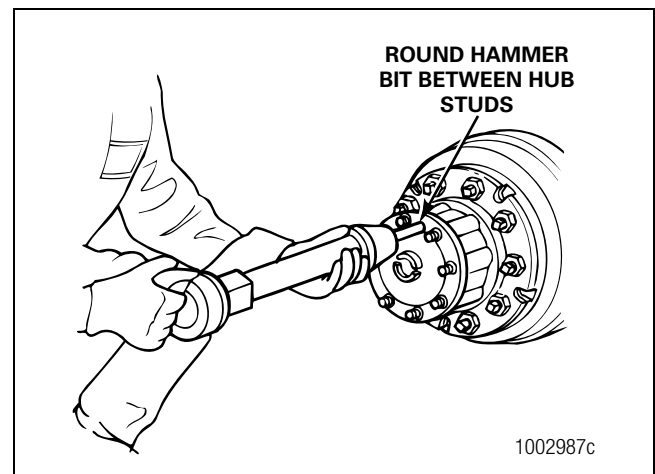

Figure 3.1
2. Place the round hammer bit against the axle shaft or flange between the hub studs. Operate the air hammer at alternate locations between the studs to loosen the tapered dowels and axle shaft from the hub. Figure 3.1.
4. Remove the tapered dowels and separate the axle shaft from the main axle hub assembly. Figure 3.1.
5. Use a filter strap wrench to remove the oil filter. Be careful that the oil inside does not spill when removing the filter. Discard the filter. Figure 3.1.